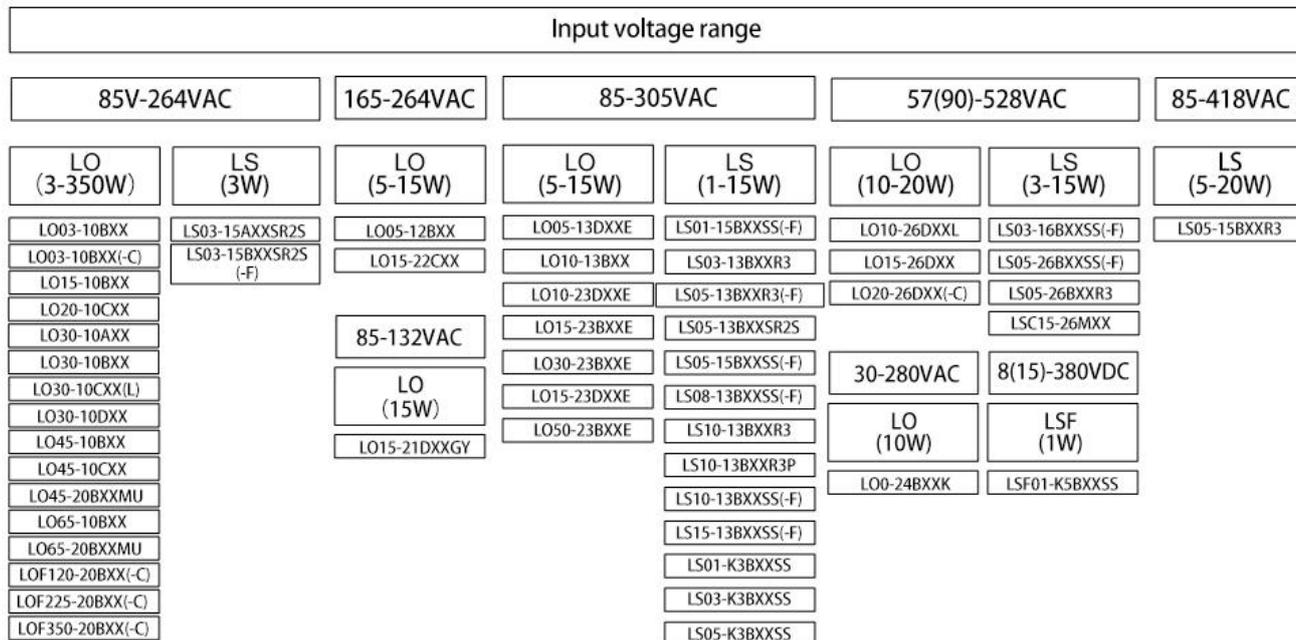

Figure 2-1 Block diagram of LO/LS power supply selection
Firstly, determine the specifications of the required power supply. Then, screen the power supply module according to the corresponding indicators, and confirm whether to use standard modules or to customize. Figure 2-1 is the basic selection block diagram of our AC-DC power supply (open-frame type) products.
Step 2: Determine the standard reference voltage according to the input voltage range. (Refer to Figure 2-1 for the input voltage range.)